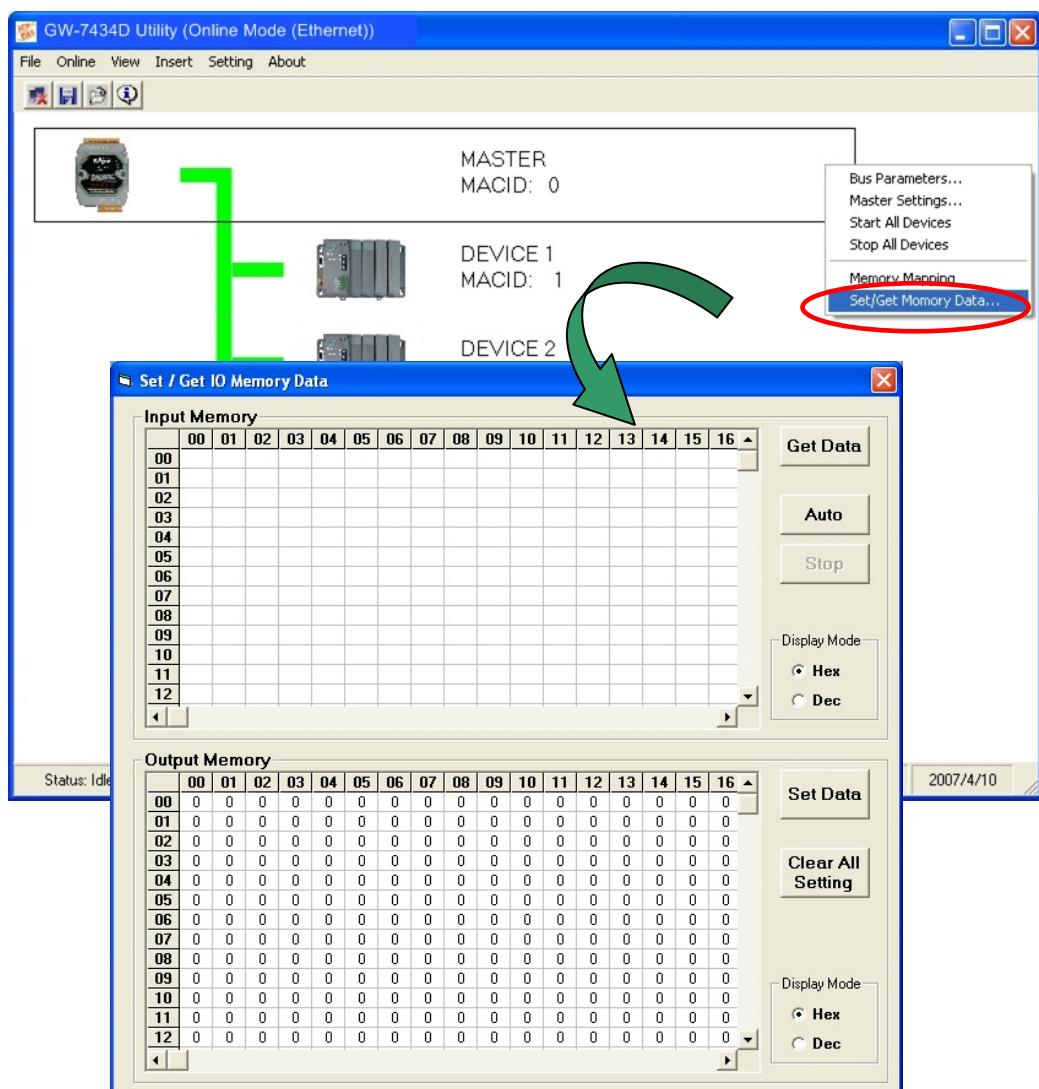

Figure 5-32: Set/Get IO Memory Data
2. Select the “Setting” item on the menu bar, or click the mouse right-button on the master frame, then click the “Set/Get Memory Data...” item. Then the “Set / Get IO Memory Data” window will be pop-up. As shown in figure 5-32.